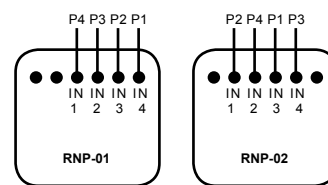

Fig. 1
- Fig. 1 viser knapperne numre for senderne RNP-01/RNP-02